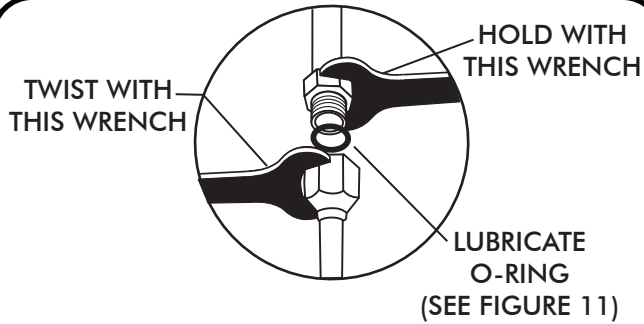

FIGURE 10
- ❑ ON A WORKBENCH, INSTALL EVAPORATOR REAR BRACKETS, AND INSTALL EVAPORATOR HARDLINE WITH PROPERLY LUBRICATED O-RINGS. (SEE FIGURE 17, PAGE 18, AND FIGURES 10, 11 & 12, PAGE 12.)
- ☐ LOCATE THE #8 COMPRESSOR ALUMINUM HARDLINE. LUBRICATE (1) #8 O-RING AND INSTALL ON THE FEMALE O-RING END. CONNECT THIS LINE TO THE #8 DISCHARGE PORT ON THE COMPRESSOR AND TIGHTEN. SEE FIGURES 10 & 11, PAGE 12.